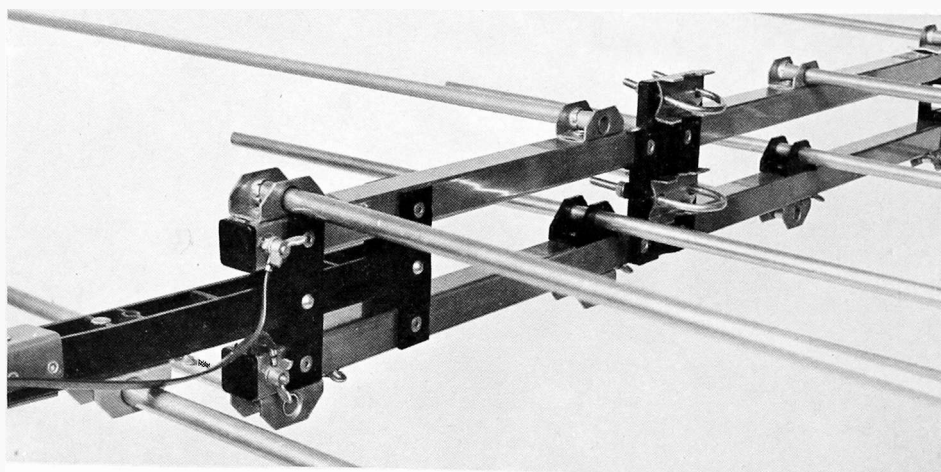

Figure 5—Overall Rugged Construction; Parts of High Quality Aluminum and Plastic
- Double boom construction—much stronger than a single boom design (Figure 5). Booms connected and reinforced by sturdy bridge cross ties.